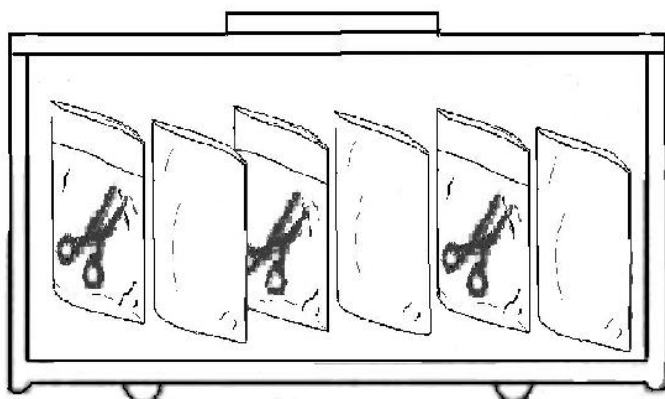

Figure 167
**WARNING:** If implements are packed with sterilizing pouches and placed inside a sterilization box, make sure to display items as shown in Figure 167.